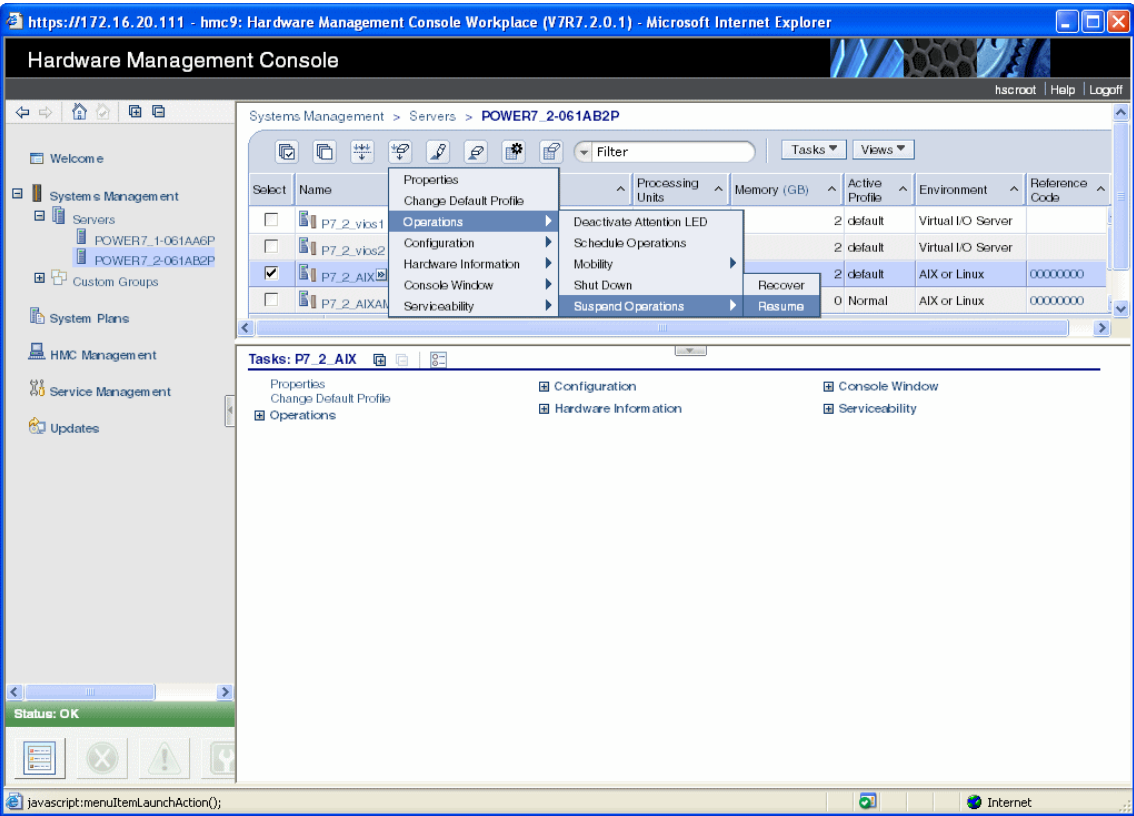

Figure 17-35 Partition resume menu
- 1. On the HMC, select the partition you want the suspend validation to be performed on, then select **Operations** → **Suspend Operations** → **Resume** as shown in Figure 17-35.
1. On the HMC, select the suspended partition you want to resume, then select **Operations** → **Suspend Operations** → **Resume** as shown in Figure 17-35 on page 667.